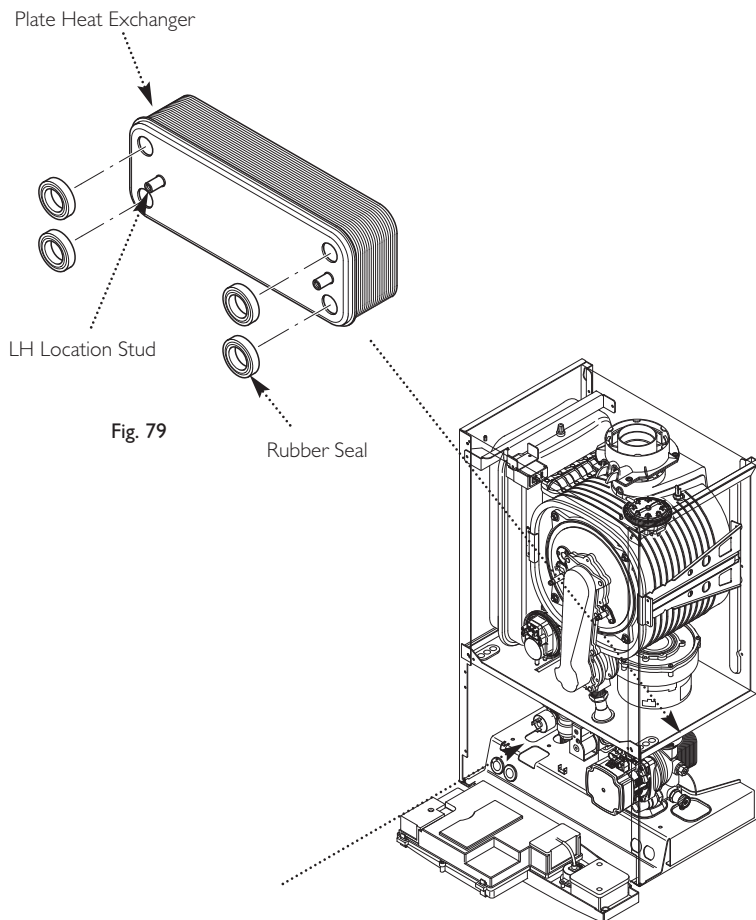

Fig. 79
13.20 Plate Heat Exchanger (Fig. 79)